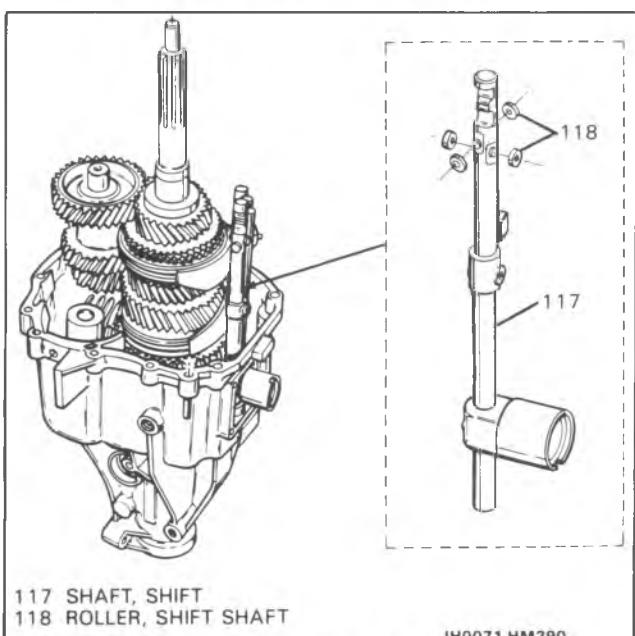

Figure 95 Rollers Install
- Bolts (236) to 8.5 N·m (7 Lb. Ft.).
11. Four rollers (118) (Figure 95).